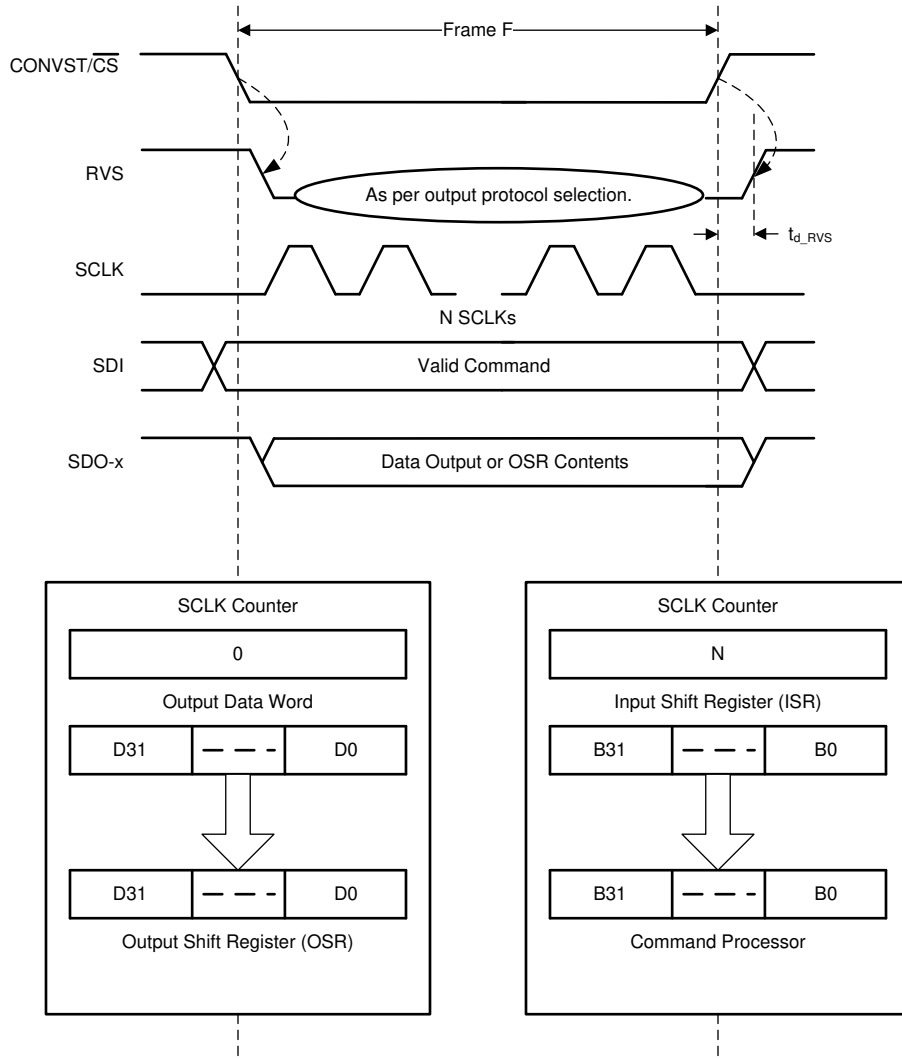

图 7-29. Data Transfer Frame
A data transfer frame between the device and the host controller begins at the falling edge of the CONVST/ $\overline{\text{CS}}$  pin and ends when the device starts conversion at the subsequent rising edge. The host controller can initiate a data transfer frame by bringing the CONVST/ $\overline{\text{CS}}$  signal low (as shown in 图 7-29) after the end of the CONV phase, as described in the CONV State section.
- The device takes control of the data bus. As illustrated in Figure 7-29, the contents of the output data word are loaded into the 32-bit output shift register (OSR).
- As illustrated in Figure 7-29, the contents of the input shift register are transferred to the command processor for decoding and further action.